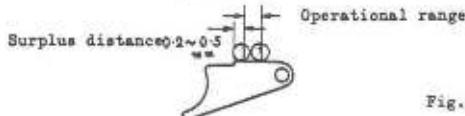

Fig. 4-44
- c Disengage the 1st frame stabilizer with tweezers (in actual condition, Duality prevention lever-E91-disengages the stabilizer when the first shutter cocking is completed). Then turn the curtain charge gear(E80) and see whether the D-shaped pin moves within the range shown in Fig. 4-44. A surplus distance must be observed at the step.